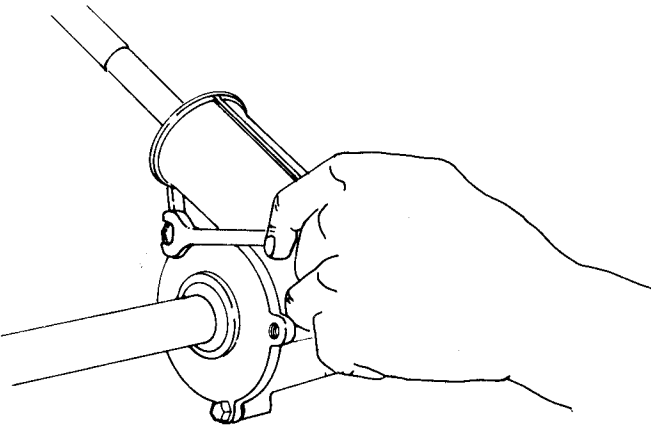

FIGURE 3.19 — REMOVING COVER SCREWS
STEP 3. Remove the cover retaining screws (Figure 3.19) and pull the cover. Tap lightly if necessary to break the paint seal.